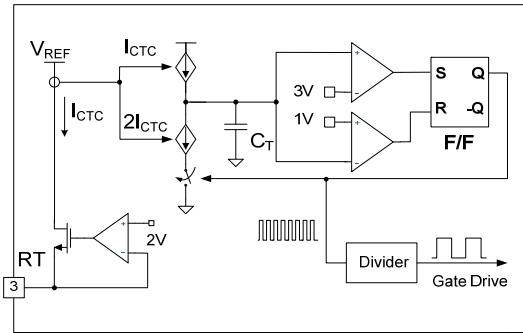

Figure 19. Current-Controlled Oscillator
**2. Internal Oscillator:** FSFR-HS series employs a current-controlled oscillator, as shown in Figure 19. Internally, the voltage of the RT pin is regulated at 2 V and the charging / discharging current for the oscillator capacitor,  $C_T$ , is obtained by copying the current flowing out of the RT pin ( $I_{CTC}$ ) using a current mirror. Therefore, the switching frequency increases as  $I_{CTC}$  increases.